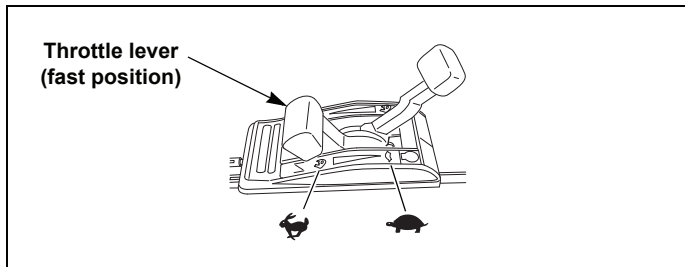

Fig. 4-22
5. Allow the engine to warm up before mowing. Set throttle lever to the "FAST" position when mowing. Fig. 4-22